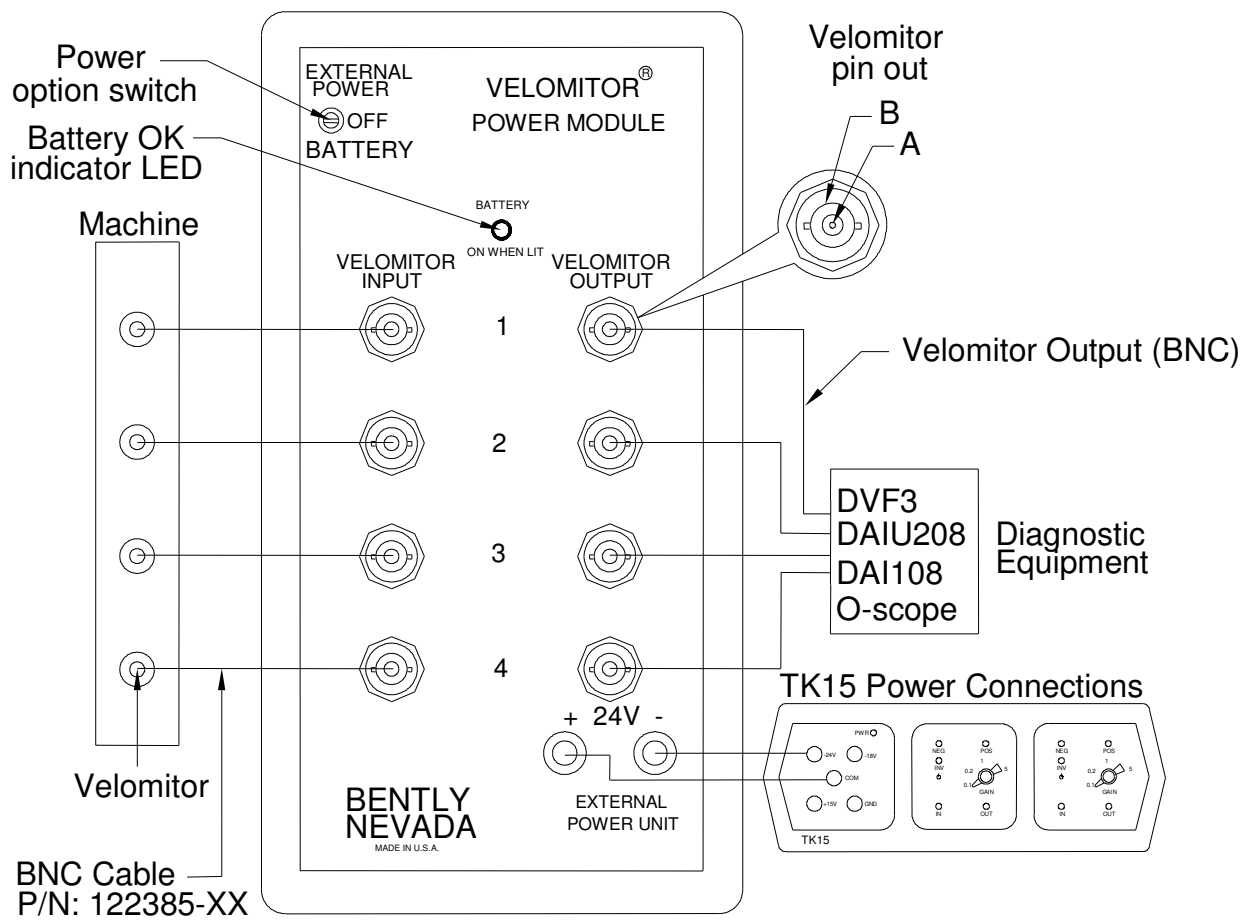

Figure 2: Velomitor Power Module connected to a TK15
2. Bently Nevada TK15 cannot be used to power a Proximitor® Sensor and a Velomitor Power Module, off of the -24 Vdc supply terminals concurrently. If Proximitor Sensors and a Velomitor Power Module are to be powered by a TK15, use the -24 Vdc to power the Proximitor Sensor, and use the +15 Vdc to power the Velomitor Power Module. See Figure 2, or the user's guide, for how to connect a Velomitor Power Module to the TK15's +15 Vdc terminals.